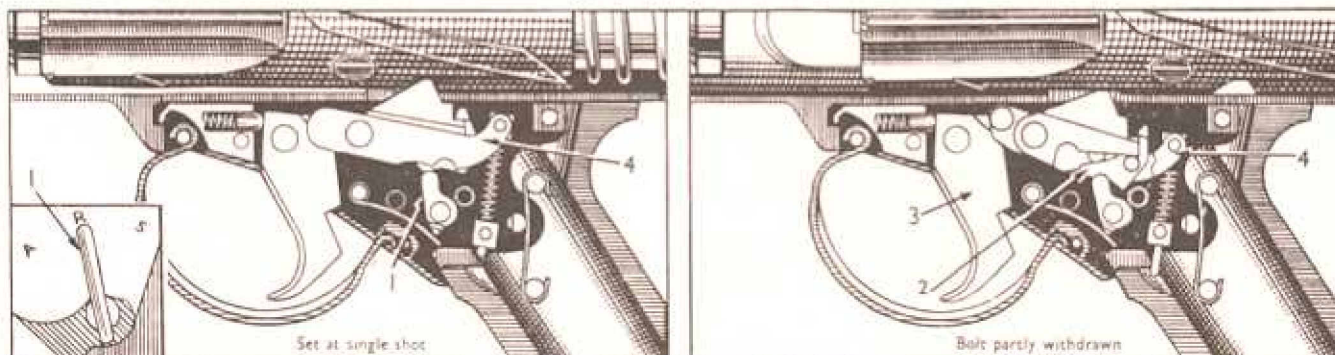

Fig. 4. Action of trigger mechanism (single shot fire)
5.0 ACTION OF THE TRIGGER MECHANISM (Figs. 4, 5, 6 and 7).
5.1 **SINGLE SHOT FIRE** (Figs. 4 and 5). When the change lever (1) is set to the single shot position R, the inner arm of the change lever is located under the tail of the tripping lever (2).